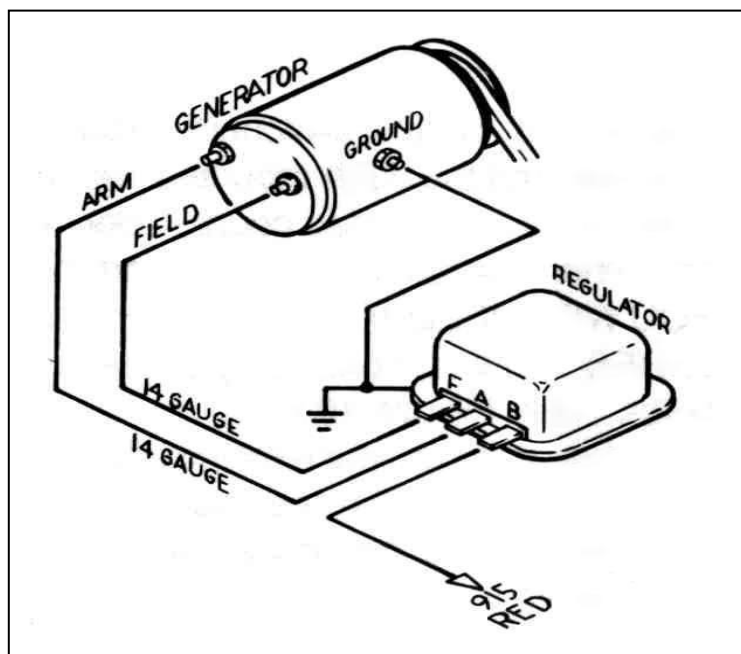

Figure 10-1 Generator Charging System
10.1 Generator Charging System. See Figure 10-1.